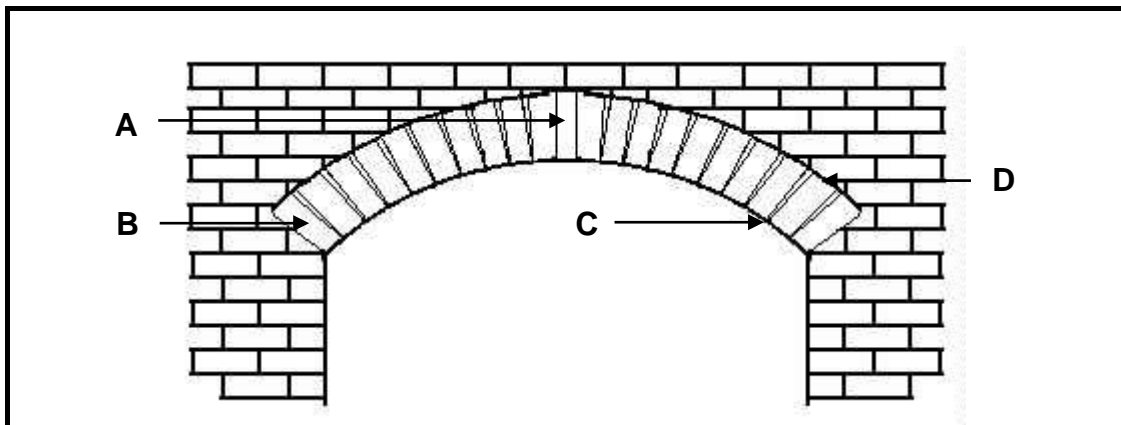

FIGURE 5.11
5.11 Answer the following questions on the arch structure in FIGURE 5.11.